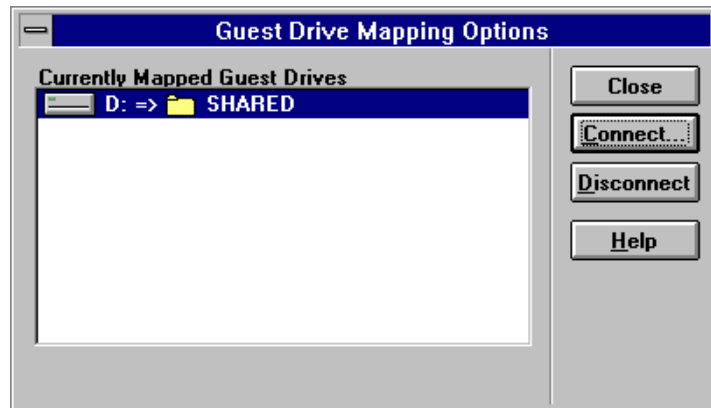

Figure 11-28: View existing mapped drive information and choose to connect to new ones using the Guest Drive Mapping Options dialog box.
2. Select the **Options** menu and choose the **Guest Drive Mapping** menu item to open the Guest Drive Mapping Options dialog box (see Figure 11-28).